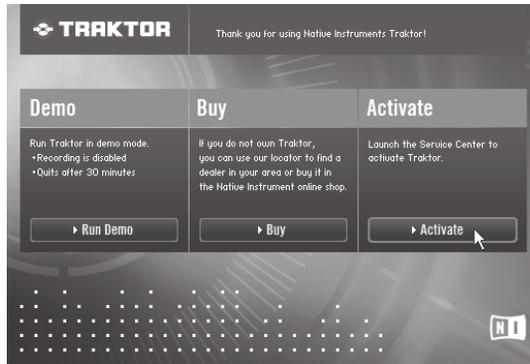

Figure 4.22
1. After launching Traktor LE, the following window will appear. Click **Activate**. (Figure 4.22)